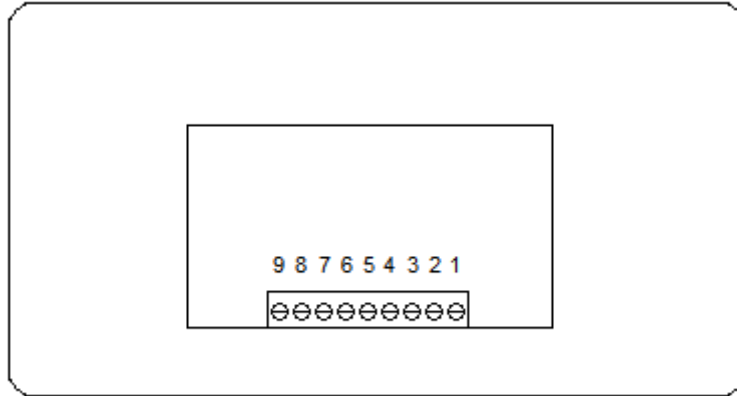

Fig.1
It is possible to use the system with a reduced number of wires in the control cable but this does allow the 'cracking' of the code to be a lot easier and reduces the flexibility when code changing. The wire coinciding with a key which does not appear in the set code need not be run, e.g. if the set code is 3642 then the wires corresponding to keys 1 & 5 need not be used. The barrier strip numbering corresponds with the keypad number, i.e. barrier strip terminal 1 controls key 1 etc. Wires between strip numbers 7, 8 & 9 MUST be connected. See Fig. 1, below, for connector terminal numbering.